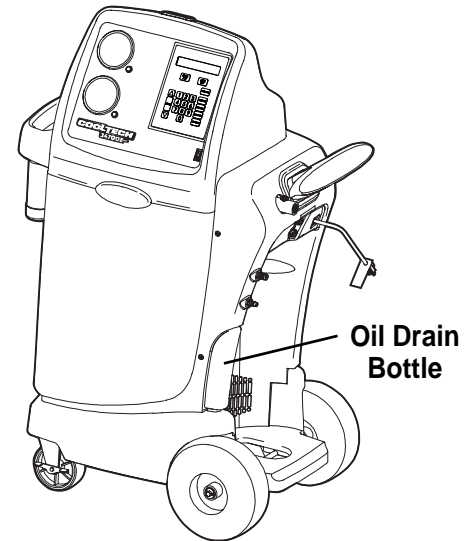

Figure 4
1. Empty the oil drain bottle located on the right-hand side of the unit, if necessary, or make note of the current oil level. See Figure 4.